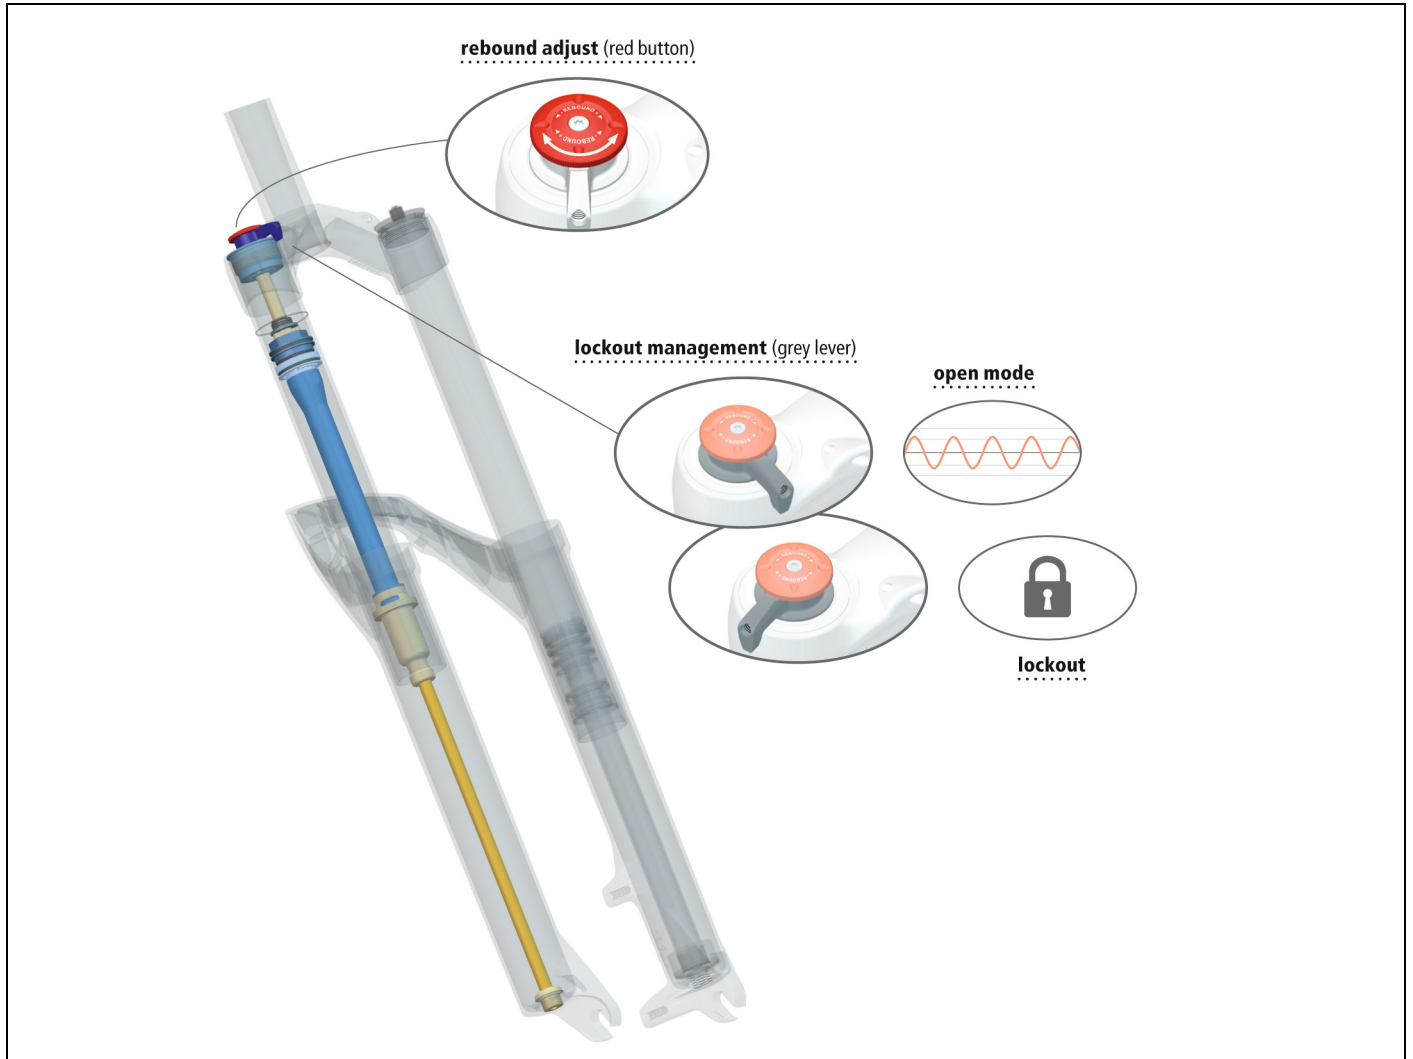
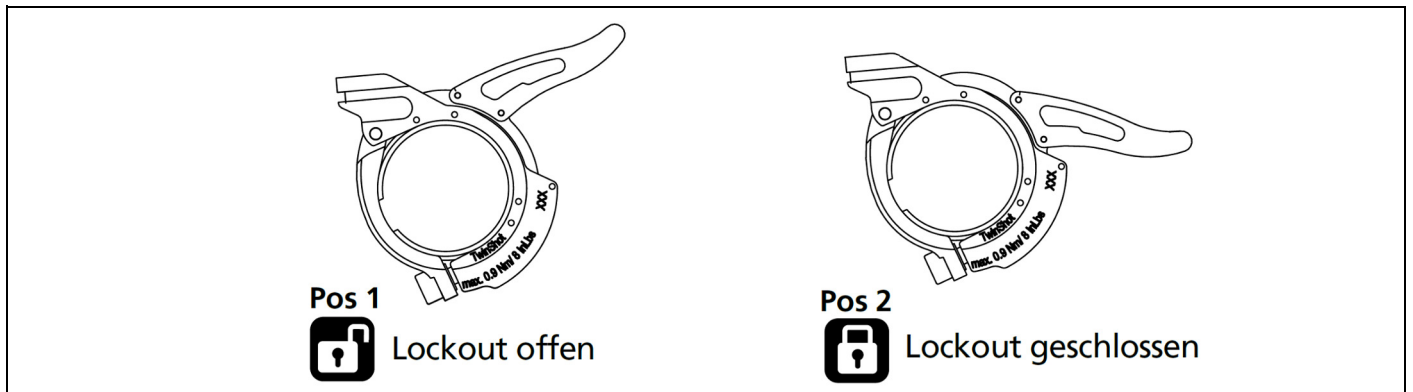
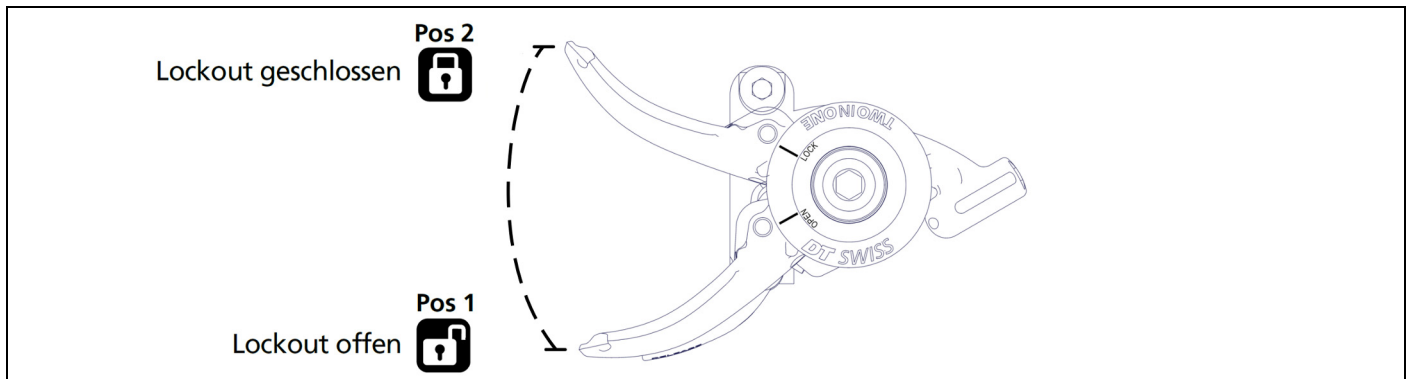

figure 4-1: Single Shot Damping
figure 4-2: Lightweight Remote Lever
figure 4-3: Two In One Remote Lever
- Push the lever (see fig.4-1, p.24) in pos. 1 or
- push the remote lever (see fig.4-1, p.24 / fig.4-3, p.25) in pos. 1
To adjust the rebound damping, turn the red wheel (see fig.4-1, p.24) on top of the right stanchion.
1. Activation of the lockout: Push the remote lever in pos 2 (see fig.4-2, p.25 / fig.4-3, p.25).
2. Deactivation of the lockout: Push the remote lever in pos 1 (lightweight lever) or push the release lever (two-in-one lever).